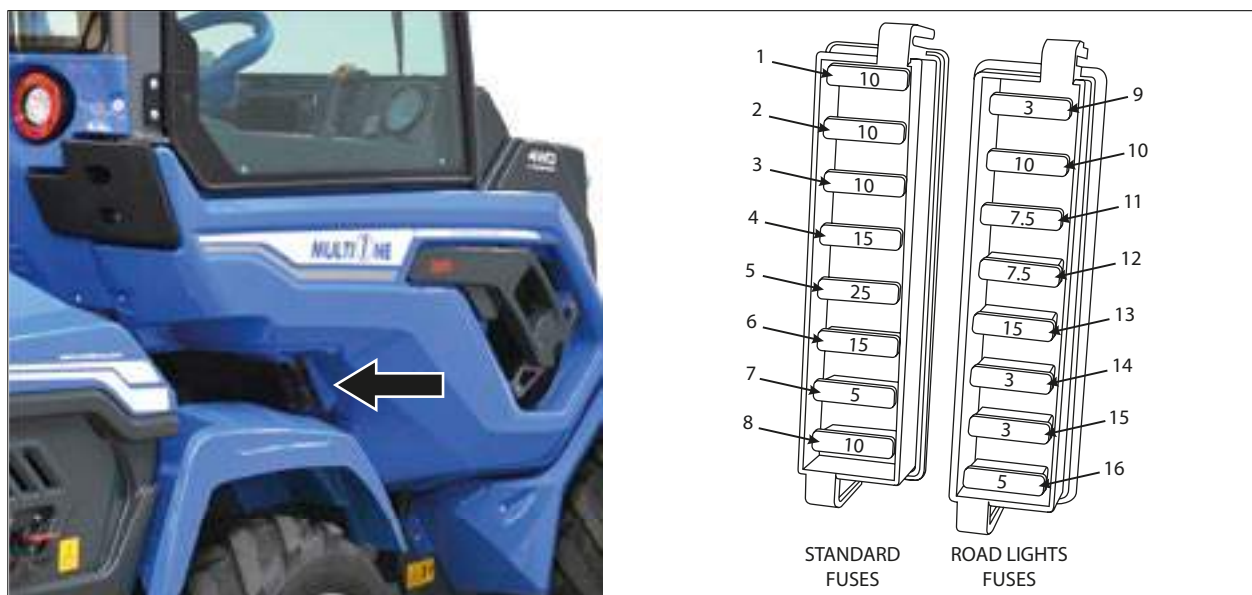

FIG. 42
- 1) Remove the cover located on the right side of the machine (see FIG. 42).